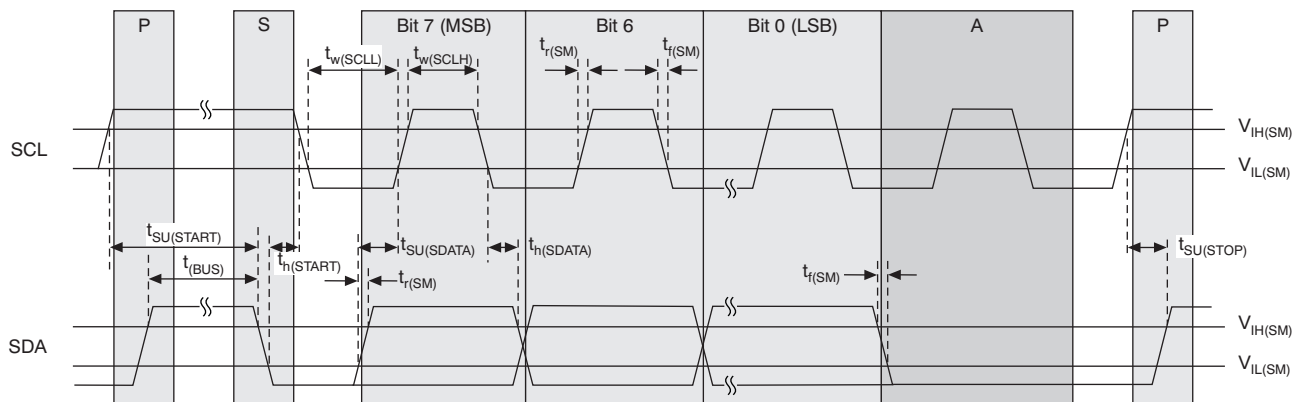

Figure 1. Timing Diagram for the SDA/SCL Serial Control Interface
(1) See Figure 1 for the timing behavior.